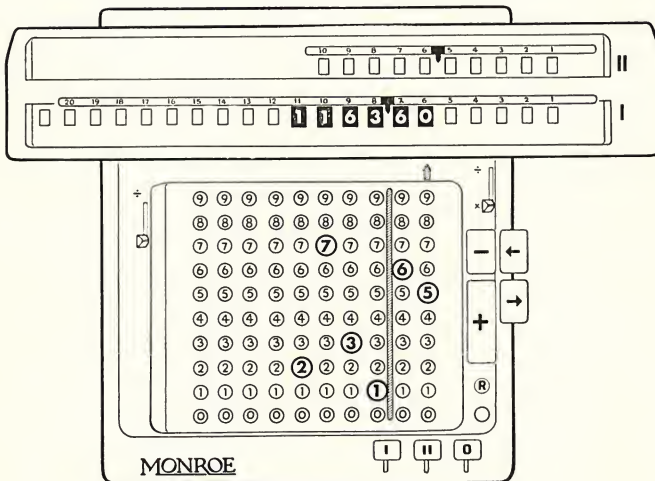

Figure 21
Step 2—Change keyboard set-up to 2731.65. Depress plus bar once. The amount of the decrease, 1163.60, appears in the lower dials as illustrated in Figure 21.